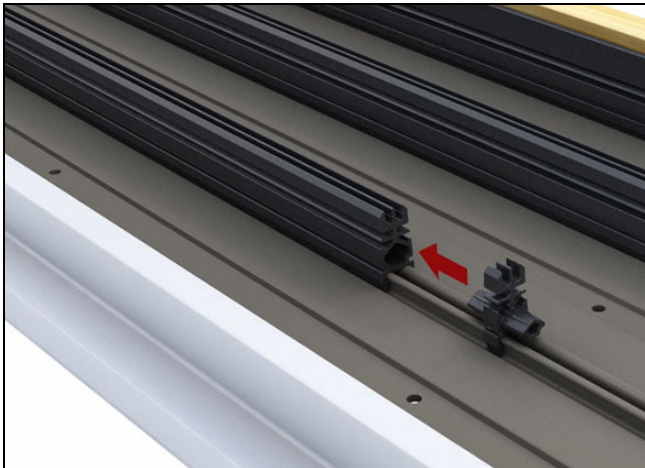

Figure 5
2. Insert frame connector splice key into the frame connector(s). See figure 5.